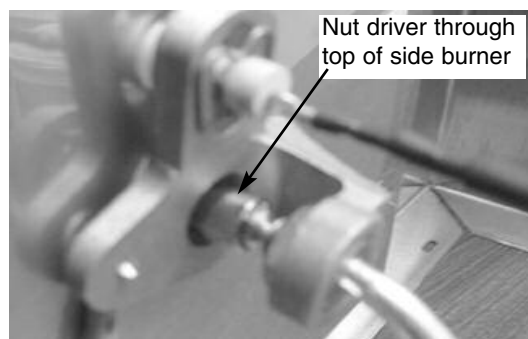

Fig 11
18. Using the 7mm nut driver tighten the LP orifice in the main burner assembly. (See Fig. 11)